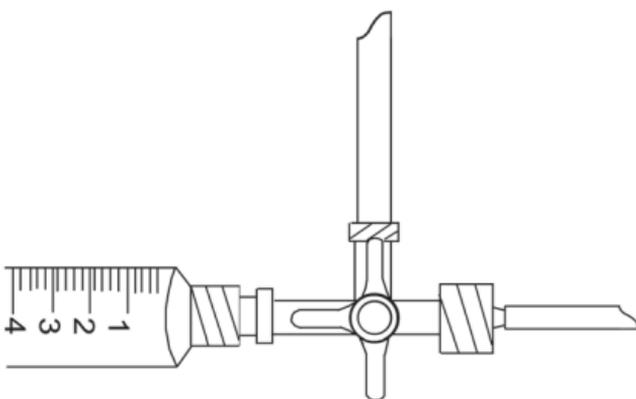

Figure A-6
- Turn the stopcock to isolate the valve from the manometer assembly, connecting the syringe to the manometer (Figure A-6).
- Adjust the stopcock to connect the syringe to the manometer (Figure A-6 above) and refill the manometer to a height equal to the opening pressure setting of the Codman Hakim Valve plus 50 mm. If the Codman Hakim Valve is programmed to an opening pressure of 120 mm H₂O (1176 Pa), the height of the fluid in the manometer is 120 mm + 50 mm = 170 mm (17 cm) (1176 Pa + 490 Pa = 1666 Pa). This procedure minimizes the possibility of inadvertently activating the SiphonGuard Device during manometer testing.